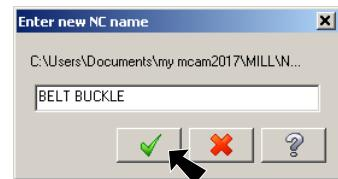

Fig. 31
Step 2. Click OK  in NC name dialog, Fig. 31.